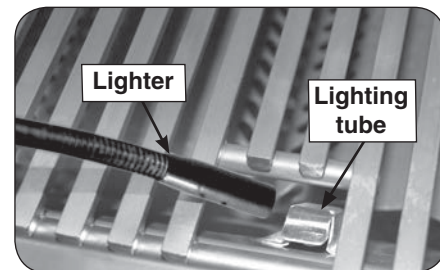

Fig. 27-2 - Manual lighting
2. Insert either a burning long-barrel butane lighter or a burning long-stem match through the cooking grid opening to the top of the lighting tube (Fig. 27-2). For backburners, hold the flame against the surface of the backburner.